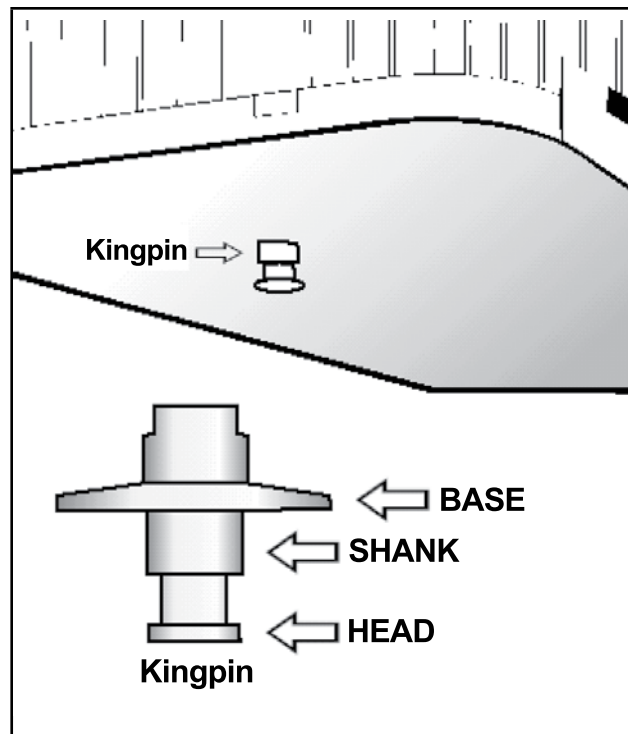

Figure 6.8
- Locking jaws are around the shank, not the head of the kingpin. See Figure 6.8.